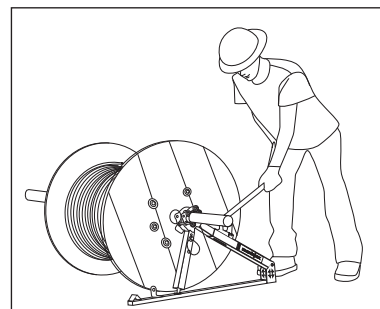

Fig. 4
10. To lift reels, push down on Max Lever (8) until lever is parallel with Back Brace. (Fig. 4)